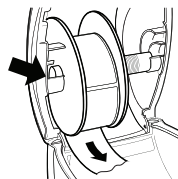

Figure 7
- 6 Insert the label spool into the slot in the printer cover with the labels extending from underneath the roll. See Figure 7.